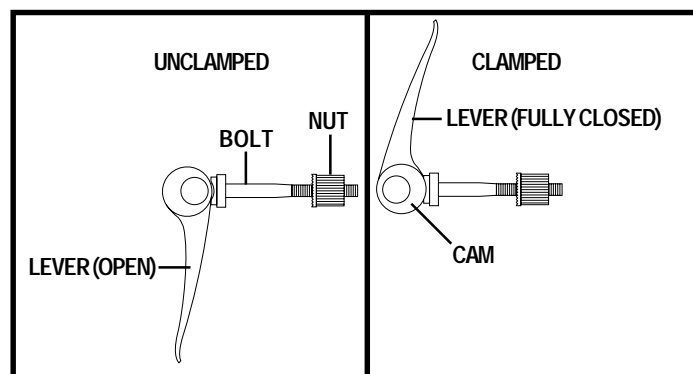

Figure 11. Quick Release Fastener Operation
2. Tighten and clamp the quick-release fastener. See figure 11.
Quick Release Fasteners: The seat is secured to the seat post with a quick release fastener. The quick release fastener consists of a bolt, a lever and a nut. See figure 11. The lever has a cam on the end that allows it to clamp into place. The quick release fastener has two states: clamped and unclamped. When the lever is open, the quick release fastener is unclamped. When the lever is closed, the quick release fastener is clamped.
7. Tighten and clamp the quick-release fastener. See figure 11.